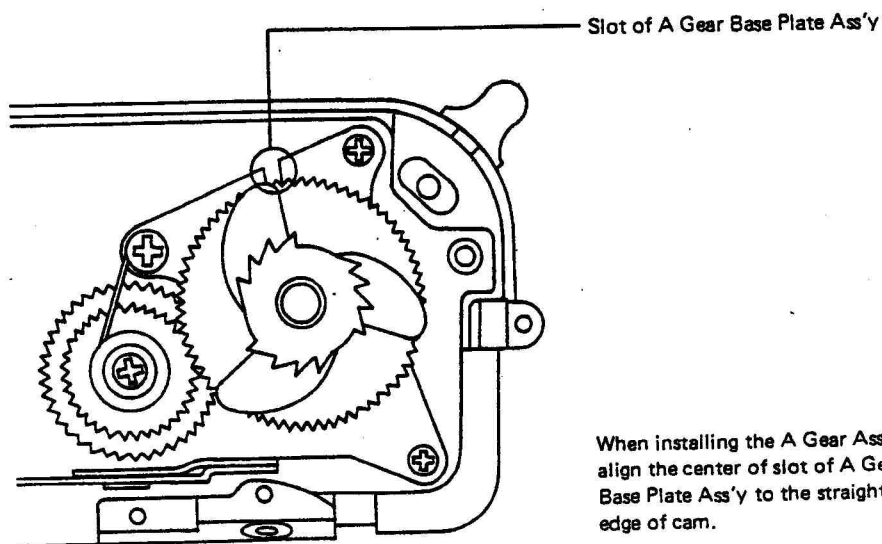

Fig. 35
- d) Install the A Gear (141030) to the correct position and direction as shown in (fig. 35).